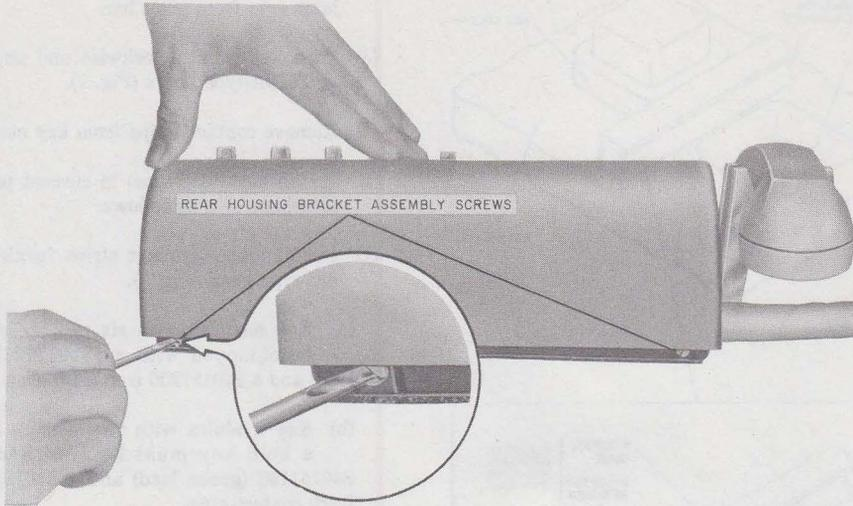

Fig. 5—Housing Retaining Screws
- (1) Remove faceplate and mat (2.03 or 2.05).
- (2) Loosen two screws at rear of housing (Fig. 5).
- (3) Raise rear of housing, move forward to disengage front mounting hooks, and lift off.
- (4) When placing housing reverse procedure.